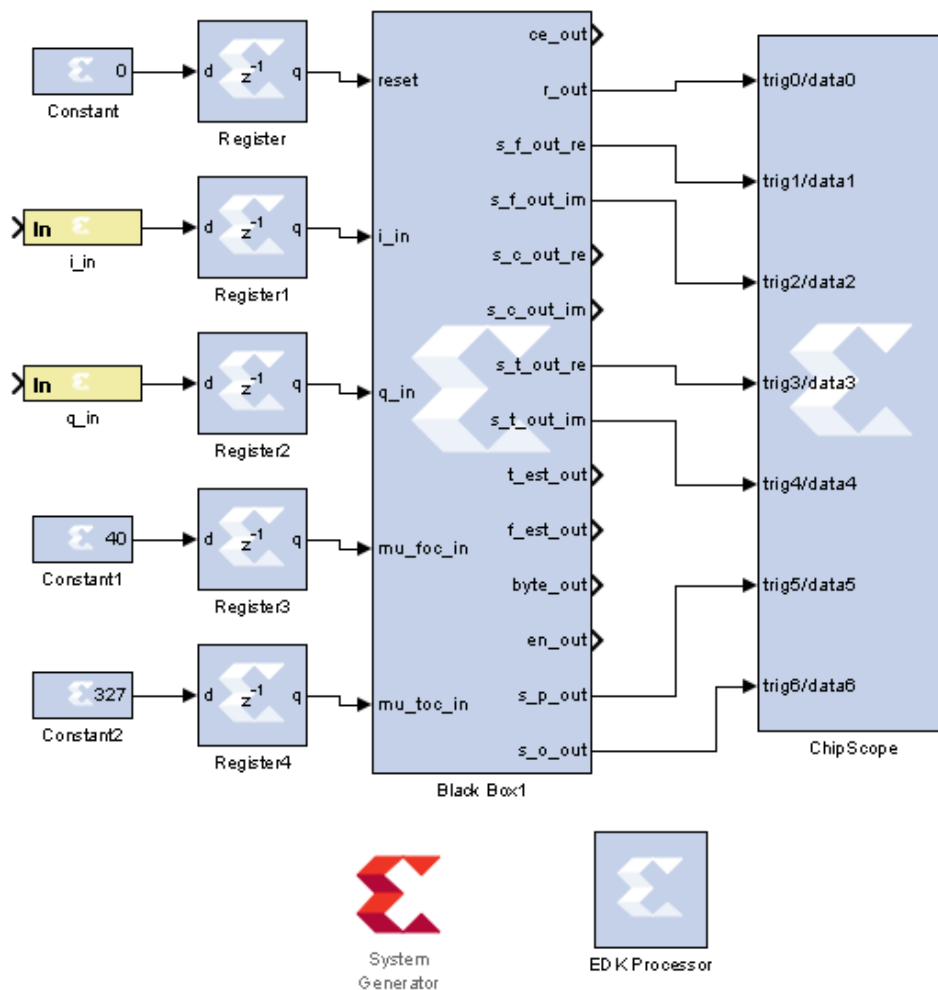

Figure 2-2: Simulink model for receiving DC Offset output
The **Simulink model**³ In Figure 2-2 will be used for receiving the ADC output and sending the data to ChipScope for extraction.
1. **Modify** the Simulink model `rx.slx` created earlier to look similar to Figure 2.2.